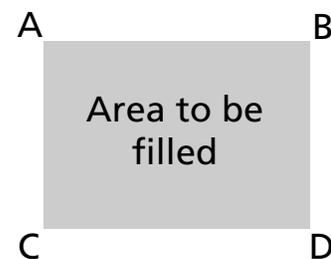

Figure 3-52
- Continuing to refer to Figures 3-52 and 3-53, define the end of the first side with a Mk2 at the end of line C-D closest to the first side.
- Again use Mk1s in appropriate increments to define uneven sections of the second side, until you get to point A of line A-B (see Figures 3-52 and 3-53).